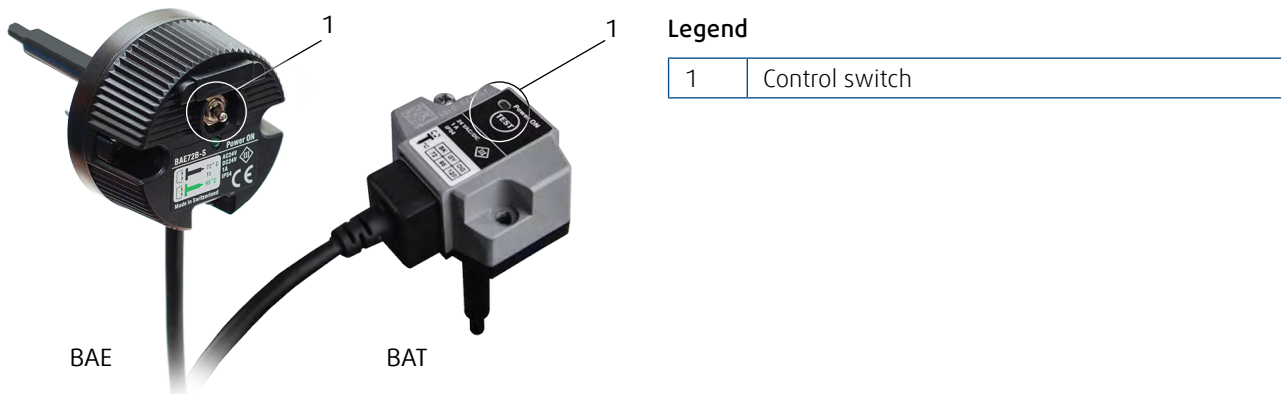

Fig. 11: Electro-thermal fuse
2. Press the control switch (1) on the thermal fuse (Fig. 11) and hold it until the fire damper is fully closed – the arrow on the actuator axis must show the 0° position.